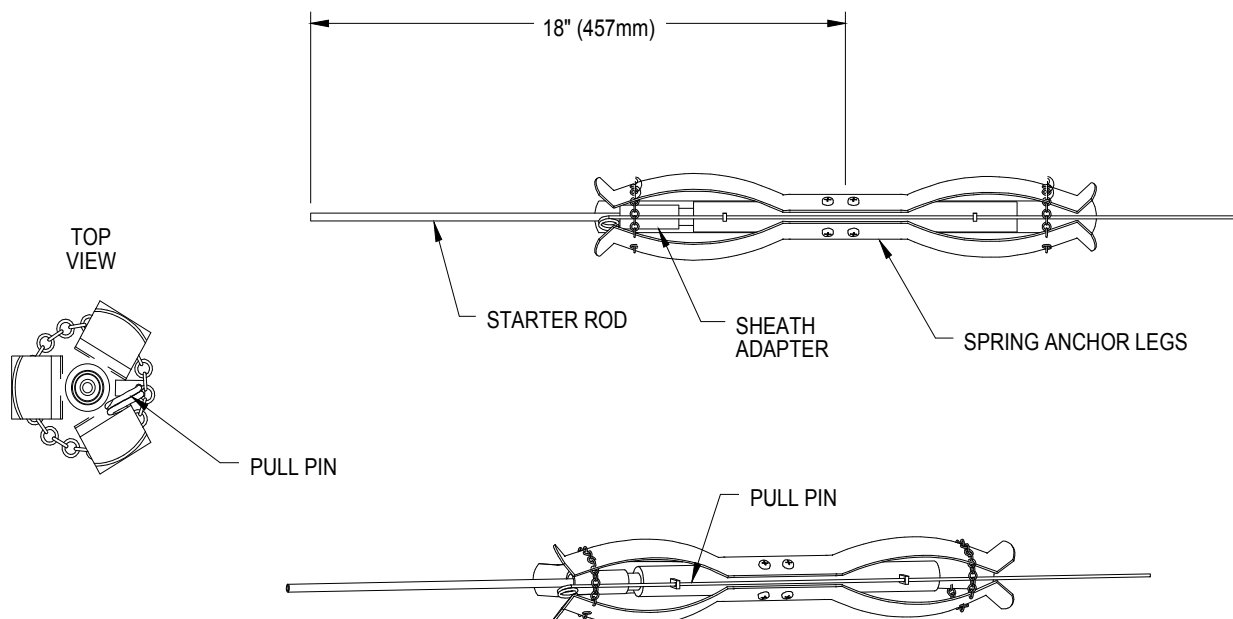

Figure 1: Anchor Arrangement (Spring Anchors Shown)
6. If applicable apply LOCTITE[®] to the screw threads at the end of the Starter Rod, and thread the Starter Rod onto the Borehole Anchor (as shown in Figure 1).
24. If applicable apply LOCTITE© to the screw threads at the end of the Starter Rod, and thread the Starter Rod onto the Borehole Anchor (as shown in Figure 1).
49. Slide the Extensometer head onto the Rods, aligning Anchor #1 with the hole stamped #1 on the Reference Head, until the head is resting on the grout housing. If necessary lubricate the installed sheaths in the borehole and loosen the Rod Locking Setscrews (to allow the Rods to pass through the Rod Locking Adapters see Figure 1).